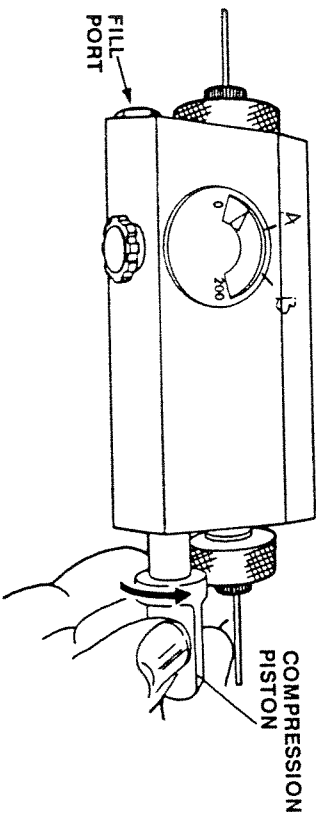

FIGURE 3-3 COMPRESSING THE CARTRIDGE
3. Refer to the chart included below to determine the correct operating pressure for the cartridge you wish to use, then turn the compression piston clockwise (Figure 3-3) until the pressure gauge reaches the correct level. If the piston bottoms before pressure is reached, repeat steps 1 and 2. If this does not resolve the problem, refer to Section 4.1, Troubleshooting the RCM 8 x 10 Module.